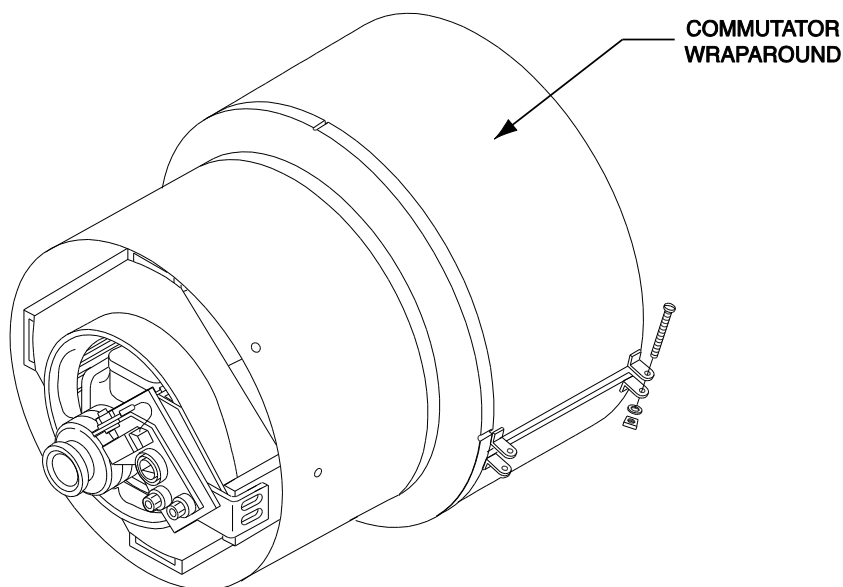

Figure 14
4. Using a screwdriver, remove the wrap-around cover protecting the welding generator brushes and commutator. **See Figure 14**